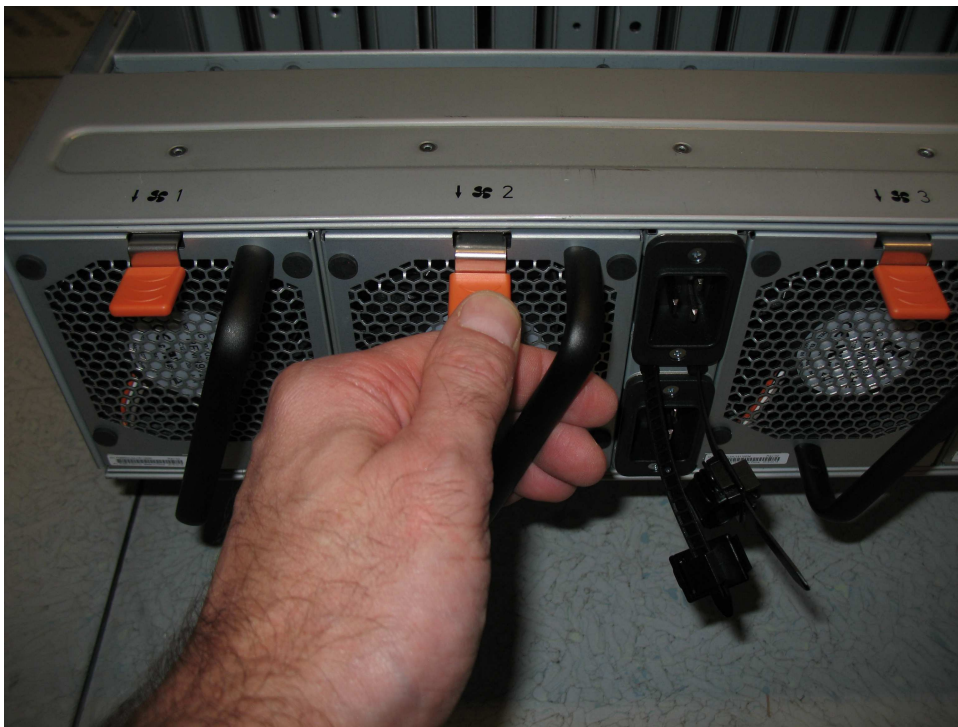

Figure 82. Fan module release tab
2. Press the release tab on the fan module, as Figure 82 shows.